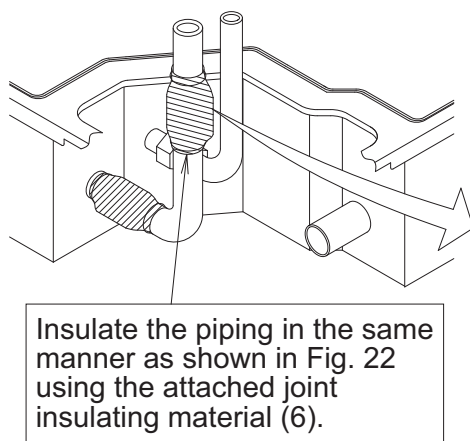

Fig. 23
- Wrap the sealing material (Small) (9) around the joint insulating material (6) (7).
- Make sure to bring the seam of joint insulating material (6) and (7) to the top.
- When carrying out upward and rightward piping, use the attached L-shaped piping, and insulate the 2 places of connection. **(Refer to Fig. 23, 24)**